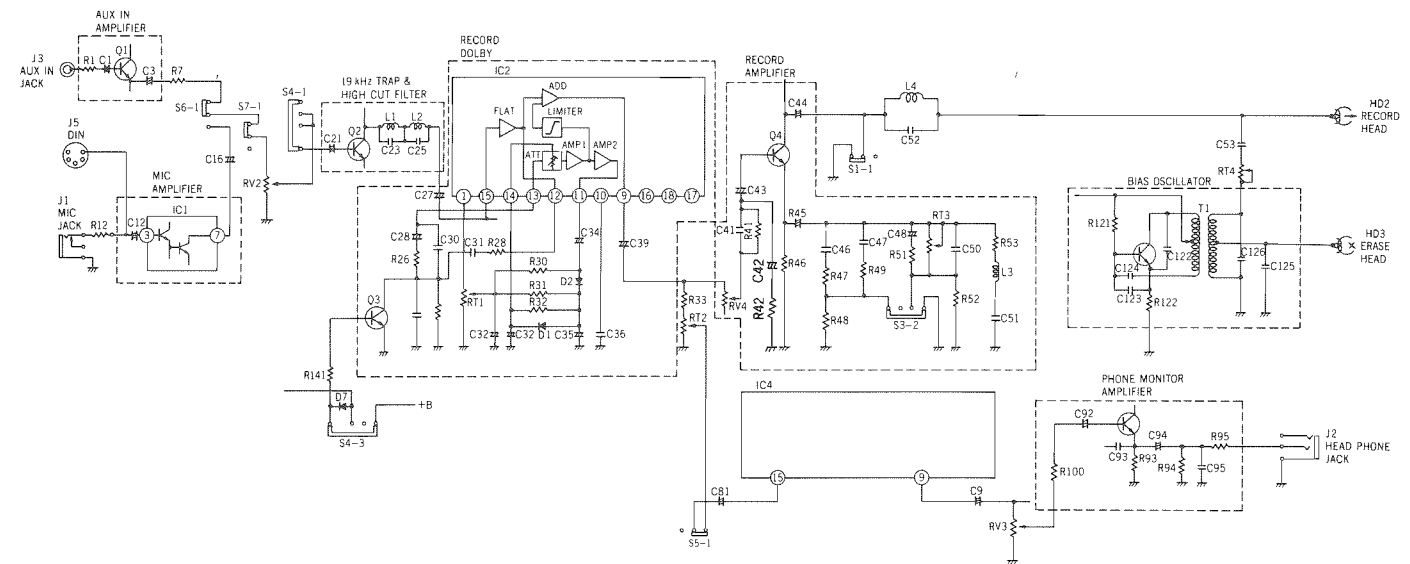

Figure 4
2. Record Circuit of SCT-30 (Refer to Figure 4.)